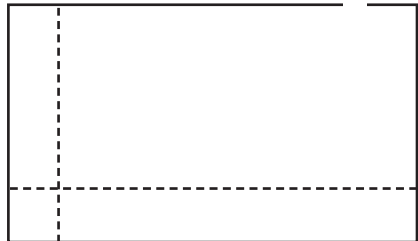

Fig. 2
2. Move chalk lines to one corner or end of the area farthest from the doorway. These lines should be two or three feet from the wall depending on your reach (Fig. 2).